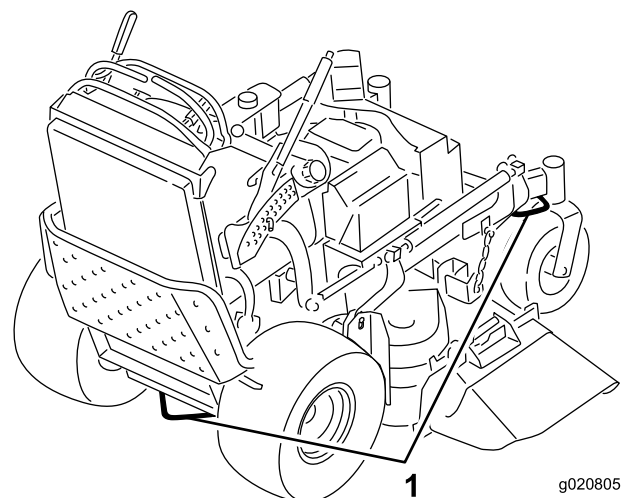

Figure 24
6. Use the metal tie down loops on the machine to securely fasten the machine to the trailer or truck with straps, chains, cable, or ropes (Figure 24).